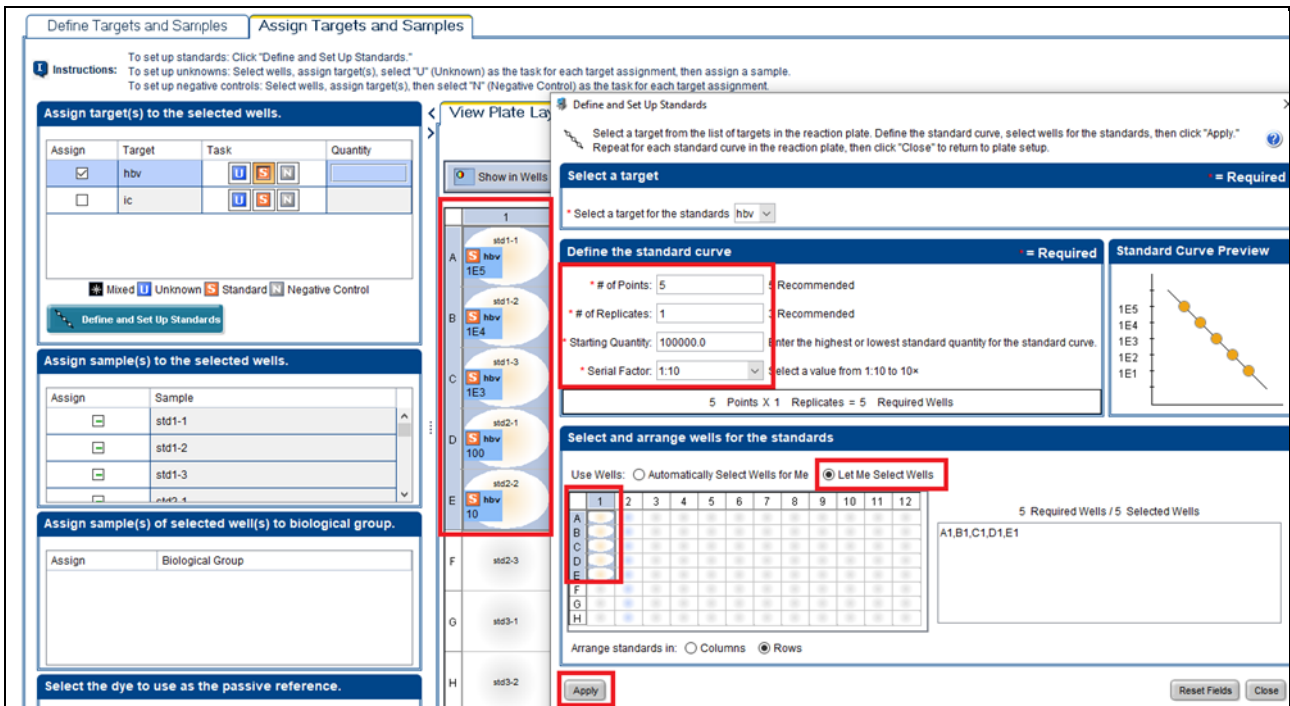

Figure 4: Definition of standards.
- For identifying standards, in the "Assign target and sample" dialogue, define each well for each standard and its concentration in the "Define and set up standards" section (refer to Figure 4).